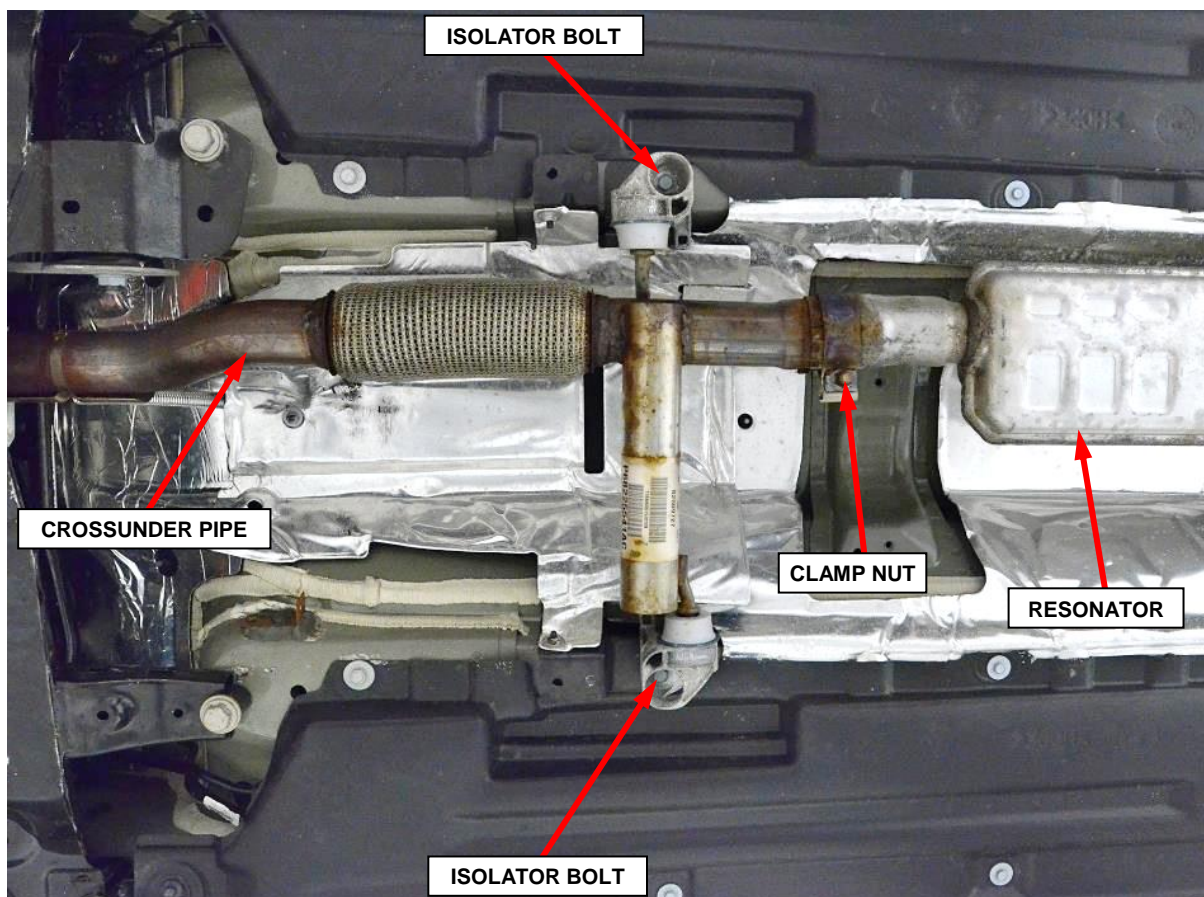

Figure 53 – Description
- c. Loosen the exhaust clamp nut securing the resonator to the crossunder pipe (Figure 53).
- d. Remove the bolts securing the crossunder pipe rear isolator to the vehicle body (Figure 53).